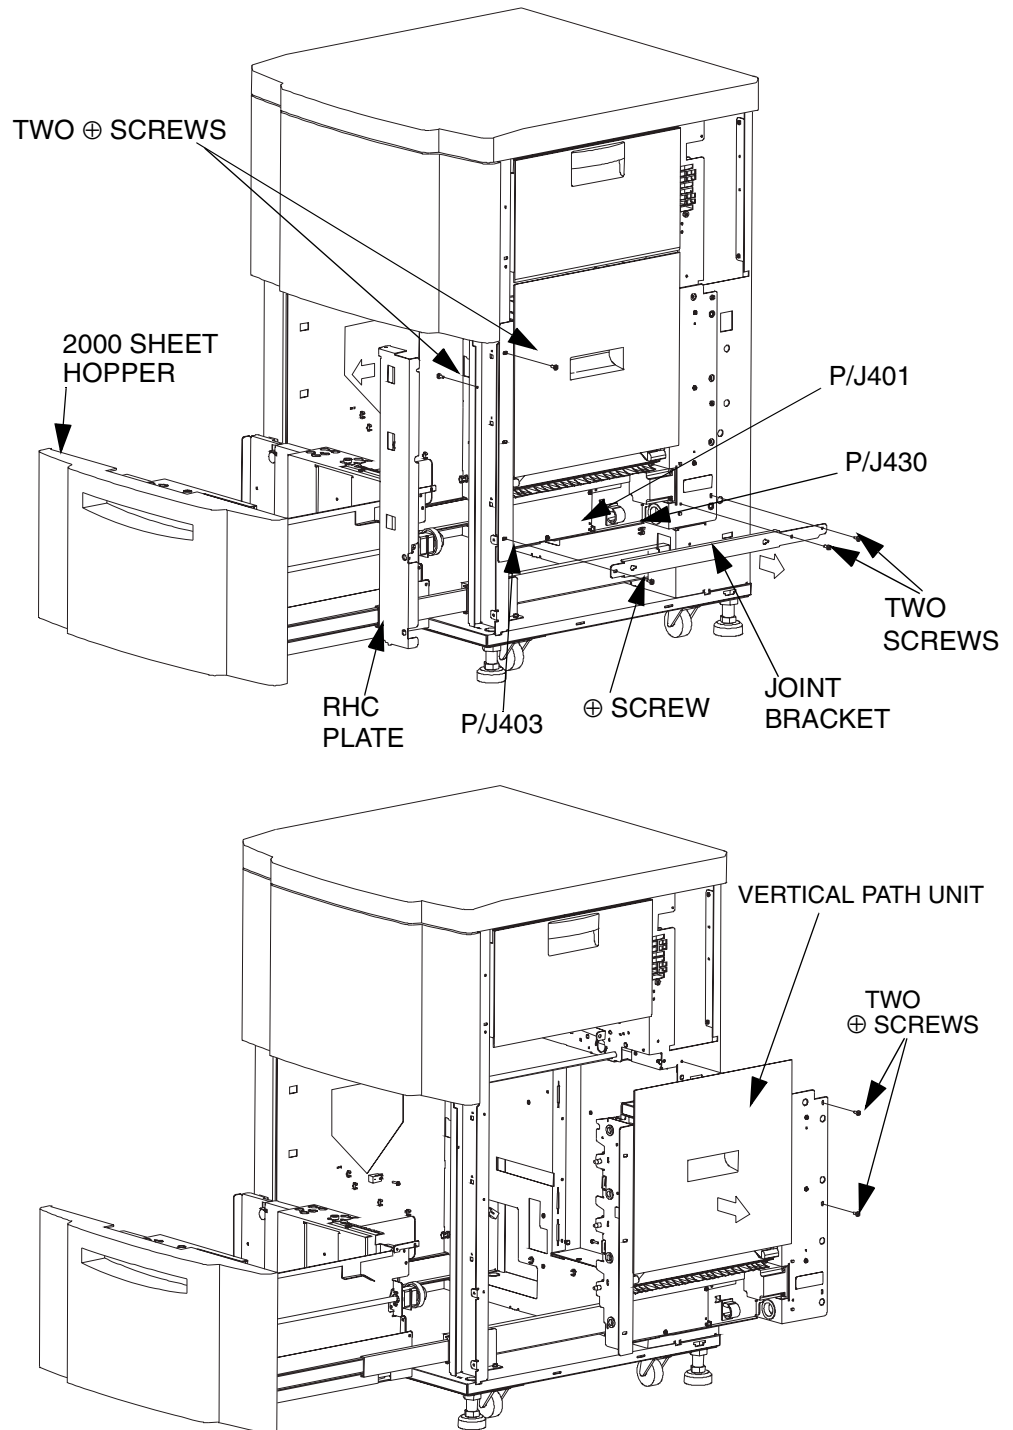

Figure 7-189. Removal of the Vertical Path Unit
1. Remove the RH Cover, the RH Rear Side Cover Assembly, the Rear Cover and the RH Side Lower Cover. (Refer to item 3.3.2. (1) on page 3-12)
2. When the Auxiliary Sheet Hopper is attached, remove it. (Refer to item 7.2.1 on page 7-217)
3. Remove the two 500 Sheet Hoppers. (Refer to item 7.1.4.1 on page 7-152)
4. Unscrew the four screws to remove the Hopper Hold Plate (1).
9. Unscrew the two screws and pull out the Vertical Path unit in the direction of the arrow. (Refer to Figure 7-189 on page 7-170)